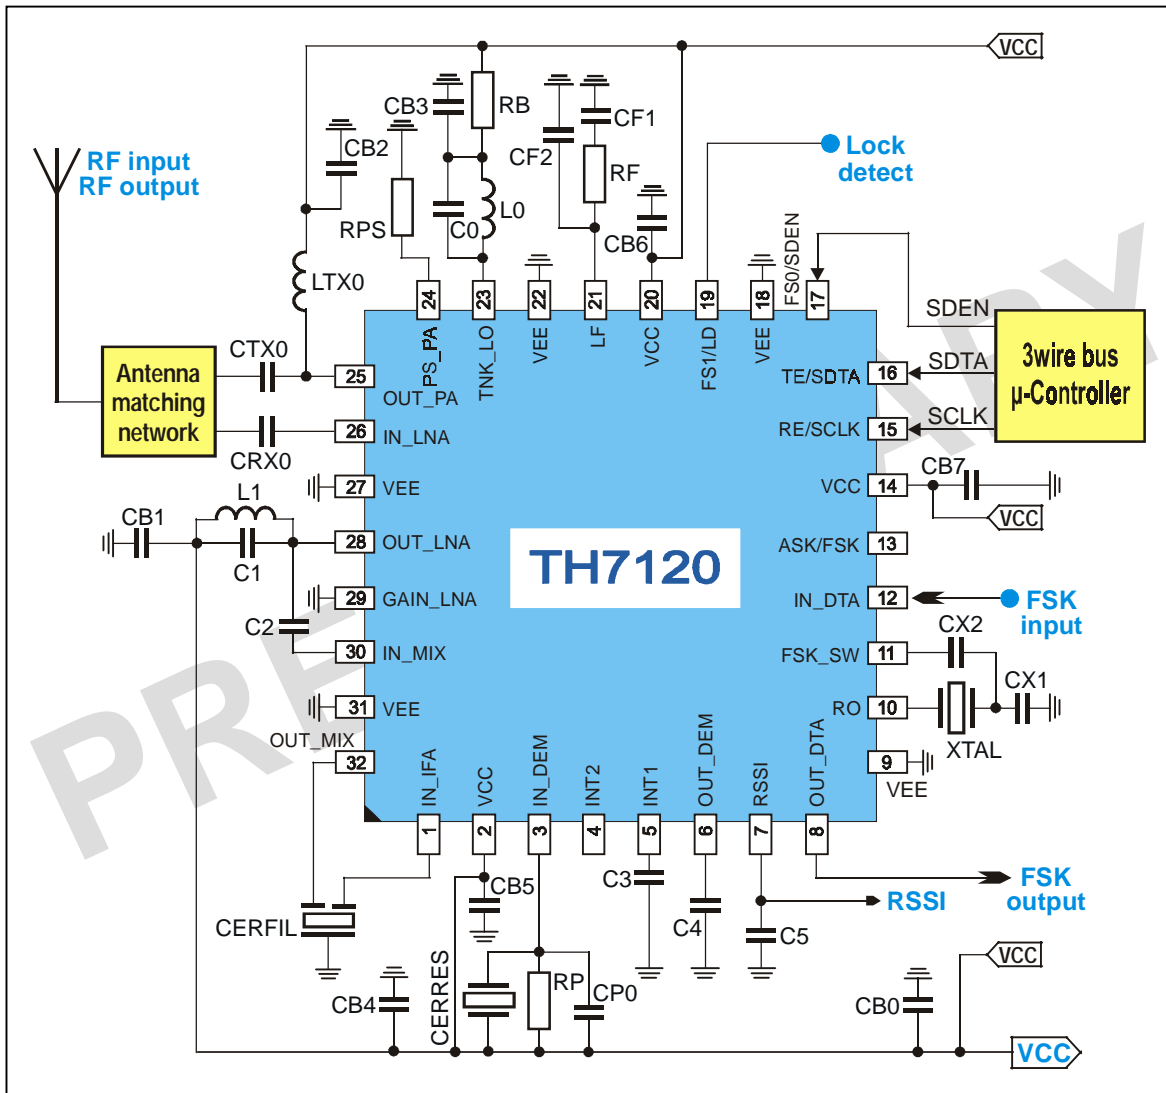
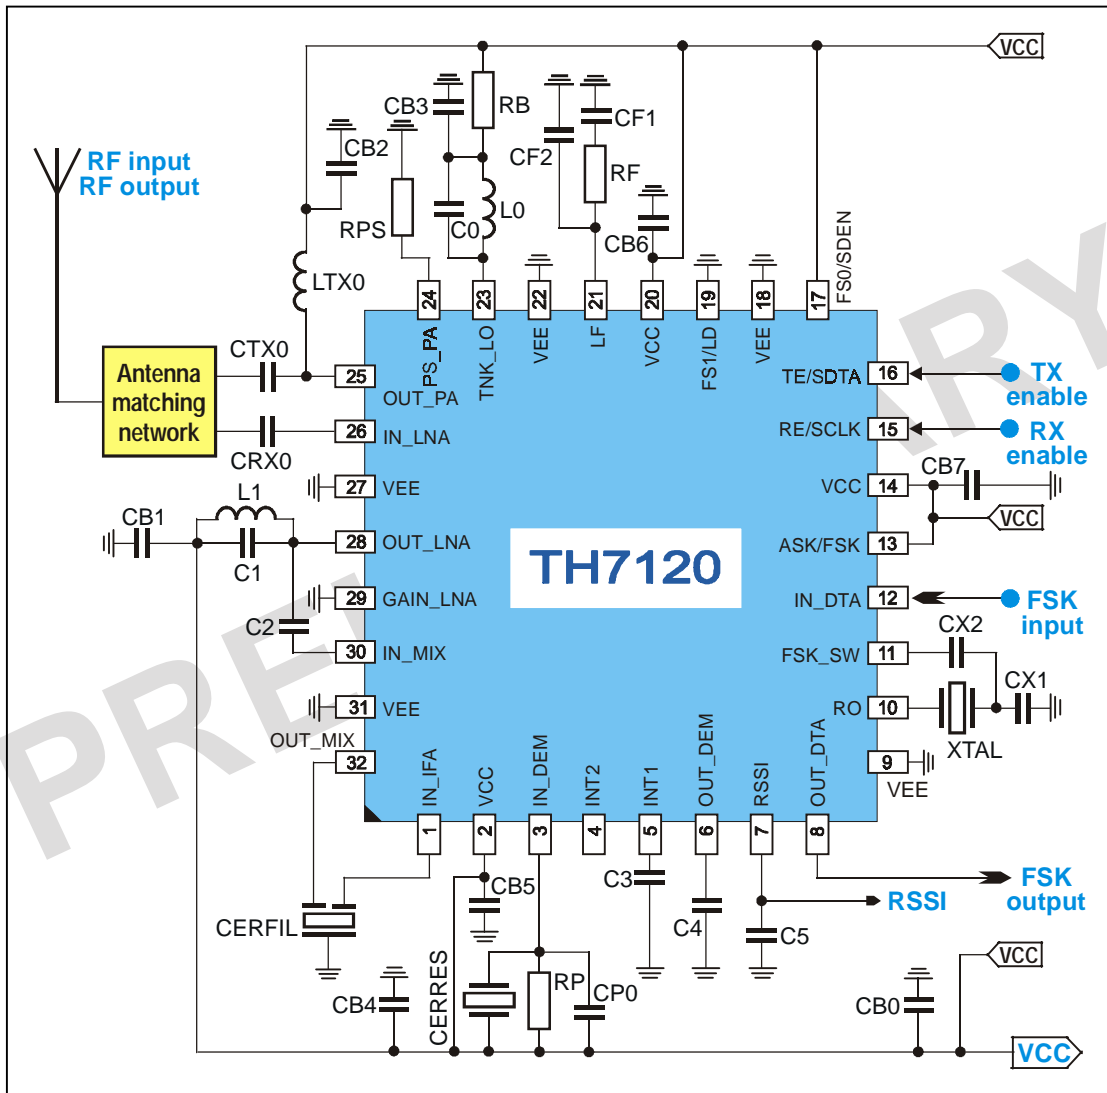
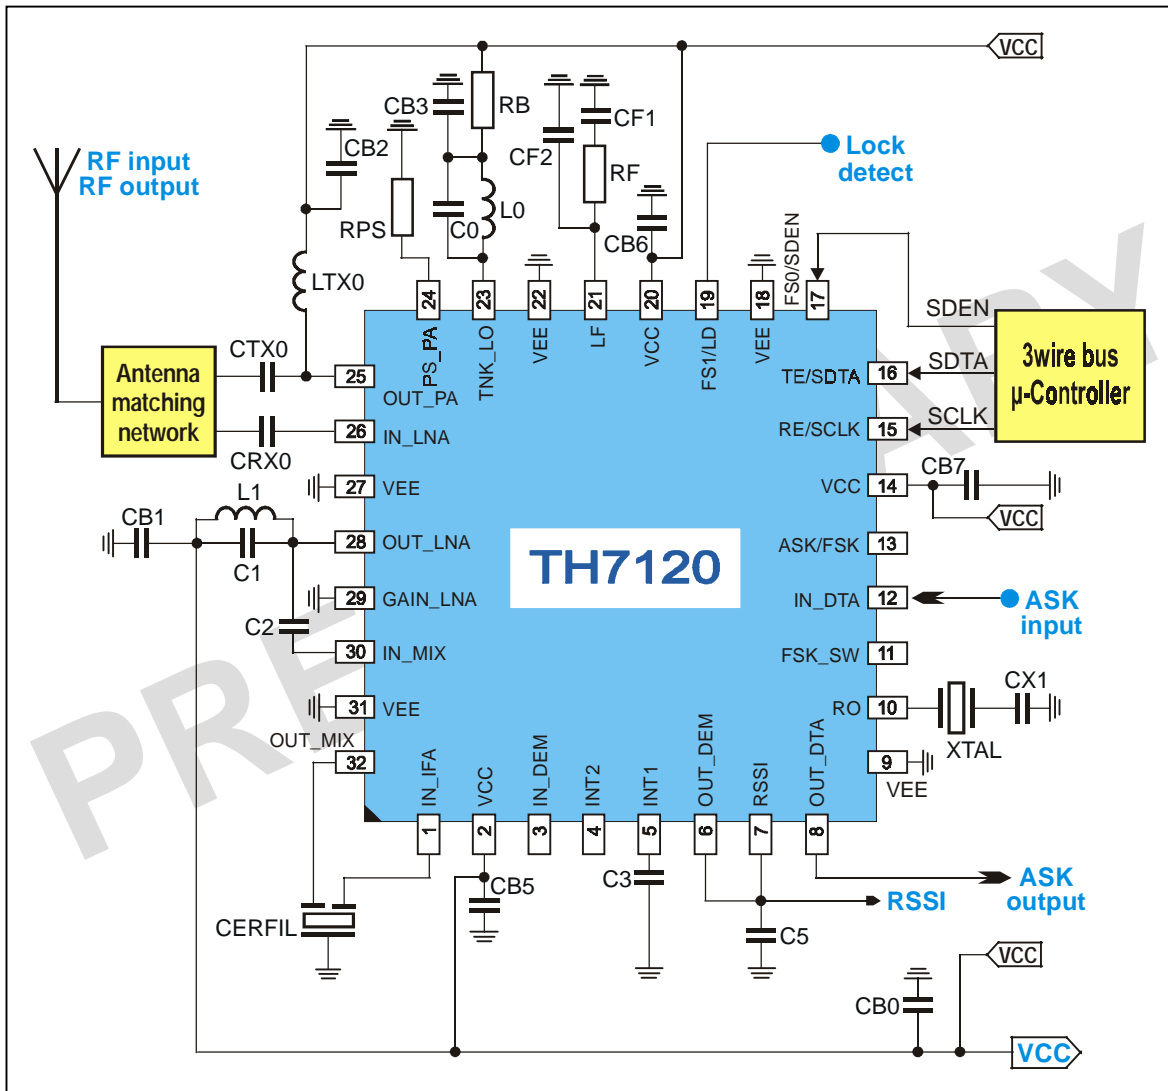
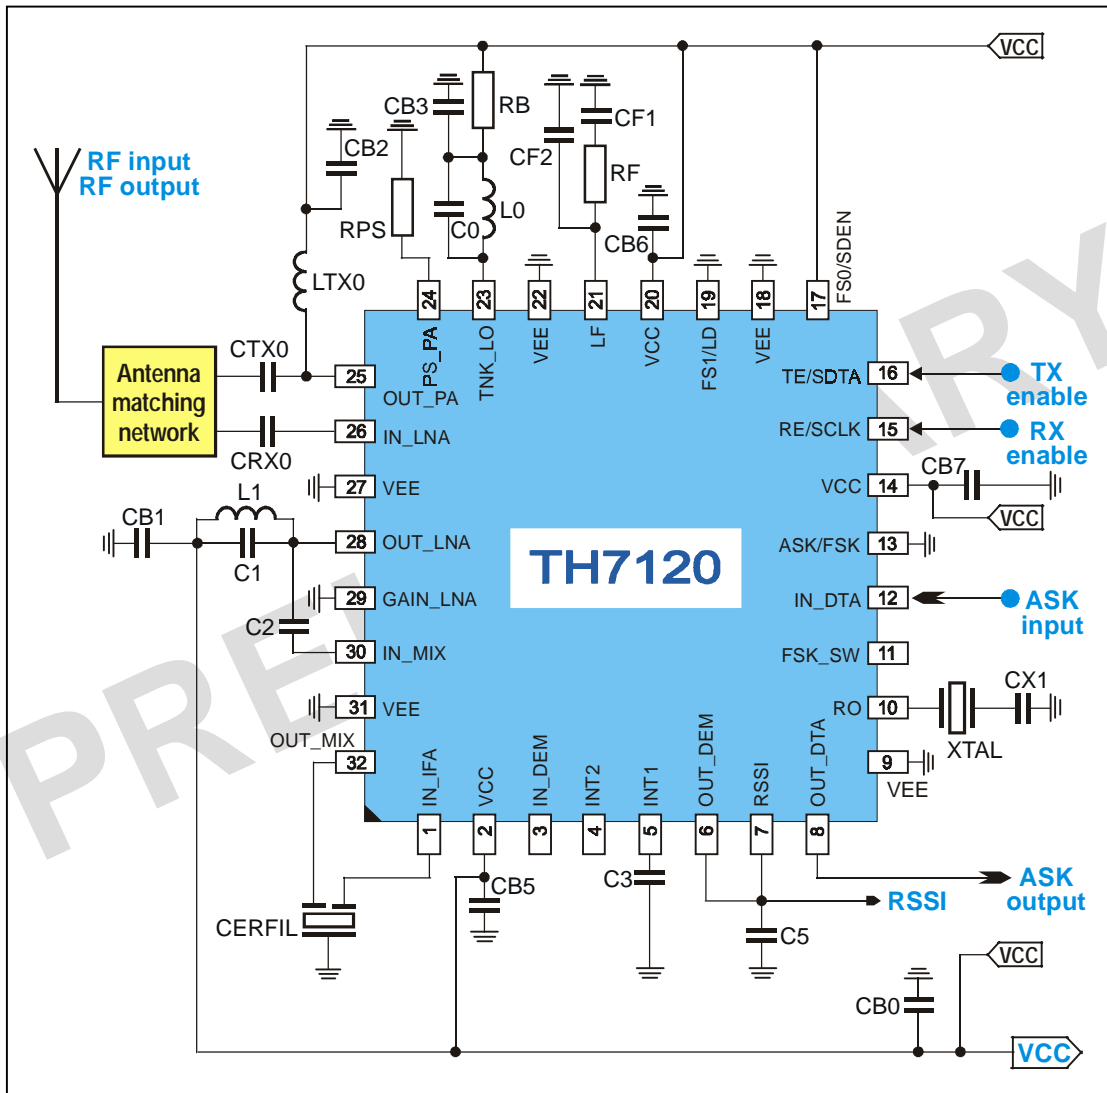

Figure 4: Test circuit for programmable channel FSK operation
Figure 5: Test circuit for fixed-frequency FSK operation at 433 MHz
Figure 6: Test circuit for programmable channel ASK operation
Figure 7: Test circuit for fixed-frequency ASK operation at 433 MHz
all parameters under normal operating conditions, unless otherwise stated; all parameters based on test circuits for FSK (Fig. 4 to 5), FM and ASK (Fig. 6 to 7), respectively; RF at 433.92 MHz
TE/SDTA=1, RE/SCLK=0, ASK/FSK=1, RPS $\geq$ 15 k $\Omega$ ,  $f_c = 433.92 \text{ MHz}$ , test circuit shown in Fig. 4 to 7
**FSK test circuit component list to Fig. 4 and Fig. 5**
**ASK test circuit component list to Fig. 6 and Fig. 7**